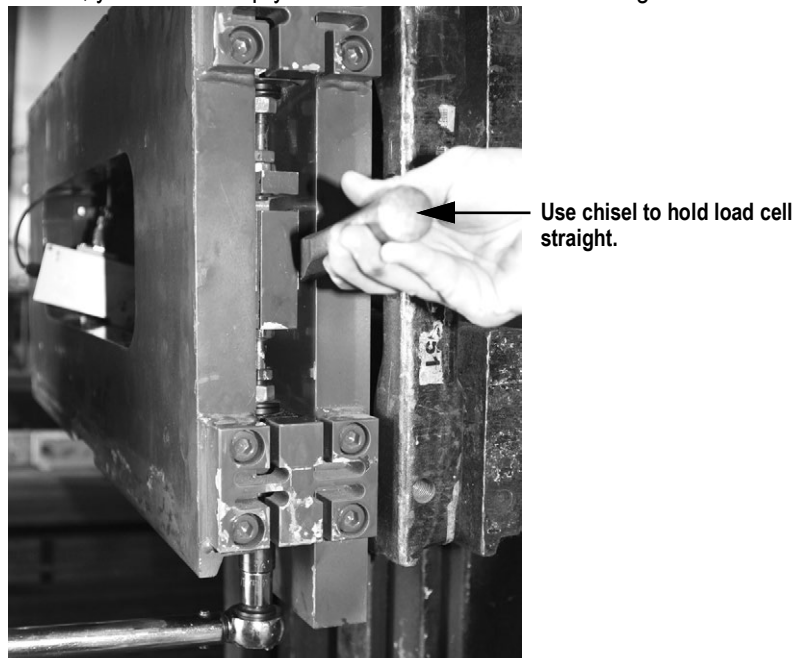

Figure 6-10. Use Chisel to Hold the Load Cell in Straight
24. Tighten the jam nuts on top and bottom of the load cell. Make sure they are tight and load cell is completely vertical to the scale. To accomplish this, you can use a pry bar or chisel to hold the cell straight as illustrated in Figure 6-10.